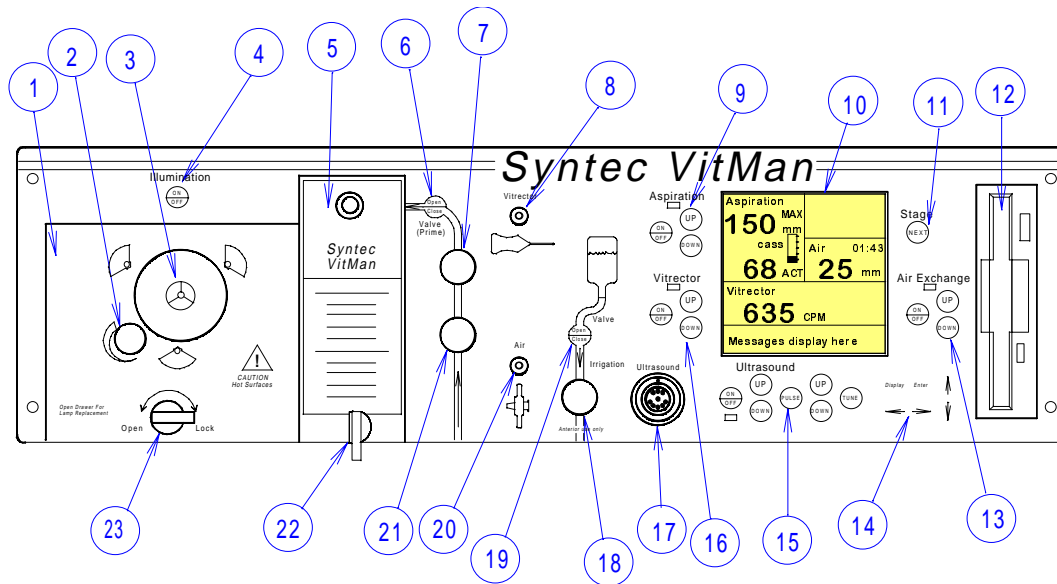

Figure 4. Front Panel Legend
Figure 4 shows the front panel legend. Moving from left to right, the first functional group is the Illumination module (1). Graphics are displayed for the three fiber optic endoillumination connections, positioned symmetrically around the circular triple connector (3). The next connector is for the aspiration